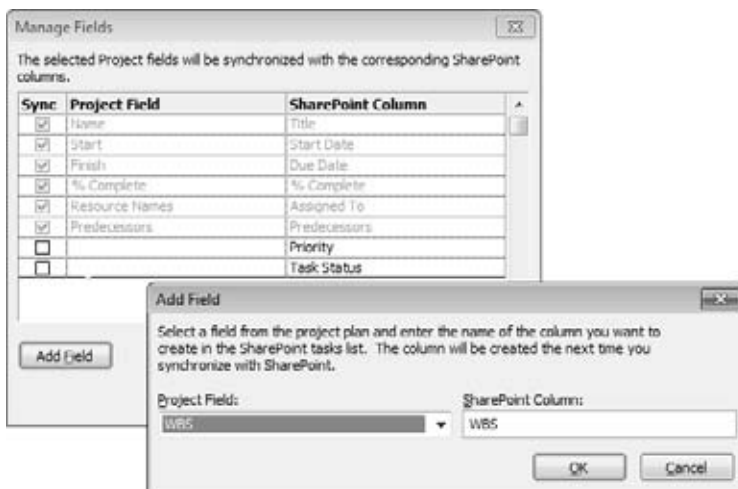

Figure 20-15:
3. To add a field, click Add Field. In the Add Field dialog box, choose the Project field you want to add, such as WBS (as shown in Figure 20-15), and then click OK. Click OK to close the Manage Fields dialog box.